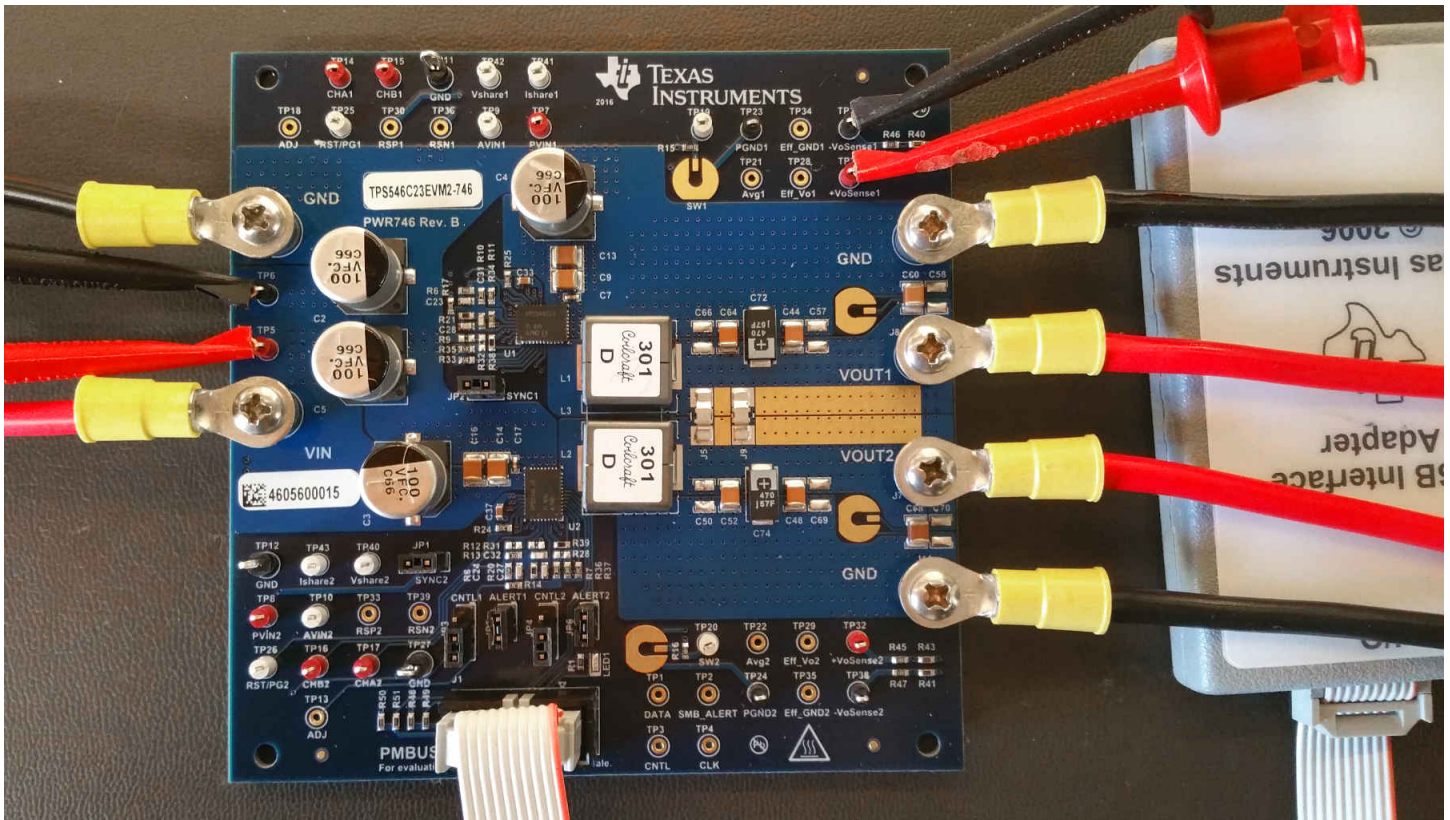

Figure 4-1. TPS546C23EVM2-746 EVM Recommended Test Setup
(1) The output current I_{OUT} can be up to 80 A, if the output overcurrent limit (IOUT_OC_FAULT_LIMIT) is set to 45 A.
(2) The efficiency is measured based on Figure 4-1 and test setups, which includes power loss caused by on board copper traces.
The input voltage source V_{IN} should be a 0-V to 20-V variable DC source capable of supplying 20 A_{DC}. Connect input VIN and GND to J2 and J3 as shown in Figure 4-1.
It is recommended to use two separate multi-meters as shown in Figure 4-1: one meter to measure V_{IN} , the other to measure V_{OUT} .
A variable electronic load is recommended for the test setup as shown in Figure 4-1. The load should be capable of 80 A.
Figure 4-1 shows the recommended test setup.